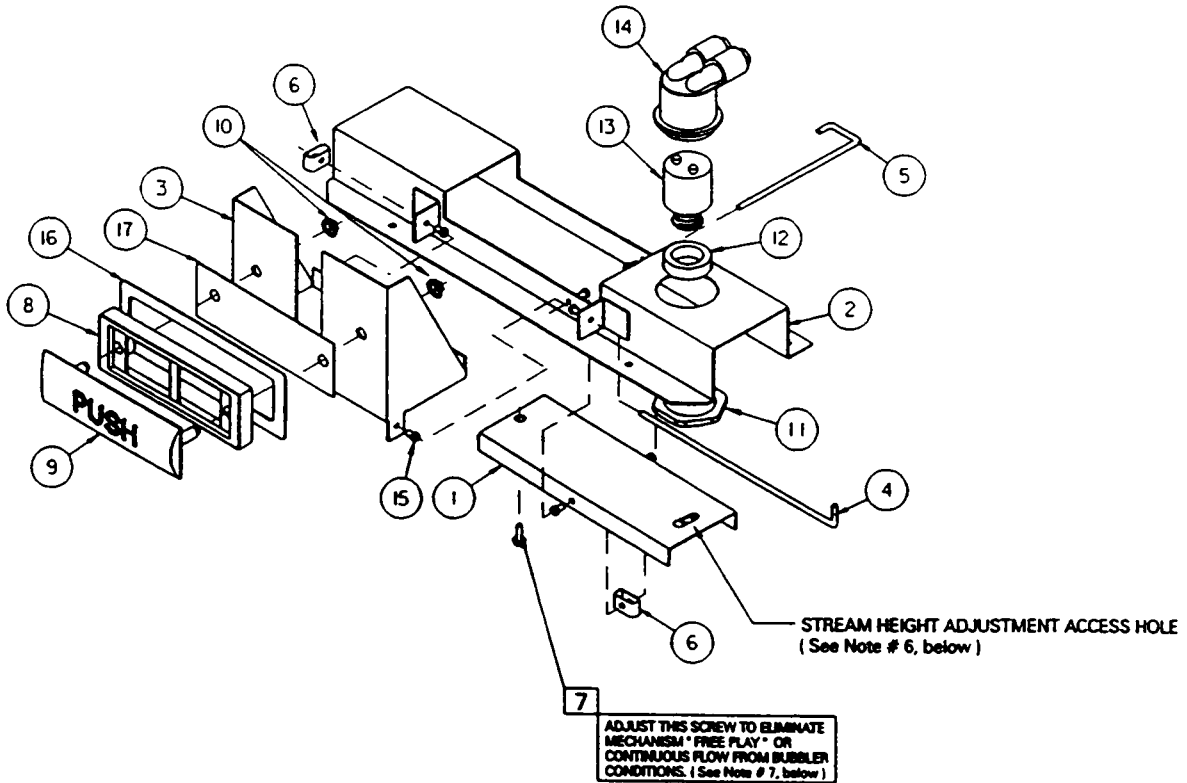

FIG. 7
9. Check stream height from bubbler. Stream height is factory set at 45 - 50 PSI. If supply pressure varies greatly from this, adjust screw on regulator (Item 13 on page 5). Clockwise adjustment will raise stream height and CCW adjustment will lower stream height. For best adjustment stream height should be approximately 1 1/2" (38 mm) above the bubbler guard. (See Figure 7 and 10 on page 5)
- Turn adjustment screw (Item #7, figure 7, page 5) "Counter-Clock-wise" until water flow from bubbler starts.
9. Check stream height from bubbler. Stream height is factory set at 45 - 50 PSI. If supply pressure varies greatly from this, adjust screw on regulator (Item 13). Clockwise adjustment will raise stream height and CCW adjustment will lower stream height. For best adjustment stream height should be approximately $1\frac{1}{2}$ " (38 mm) above the bubbler guard. (See Figure 7 and 9 on page 5)
- Turn adjustment screw (Item #9, figure 7, page 5) "Counter-Clock-wise" until water flow from bubbler starts.
9. Check stream height from bubbler. Stream height is factory set at 45 - 50 PSI. If supply pressure varies greatly from this, adjust screw on regulator (Item 13). Clockwise adjustment will raise stream height and CCW adjustment will lower stream height. For best adjustment stream height should be approximately 1 1/2" (38 mm) above the bubbler guard. (See Figure 7 and 10 on page 5)